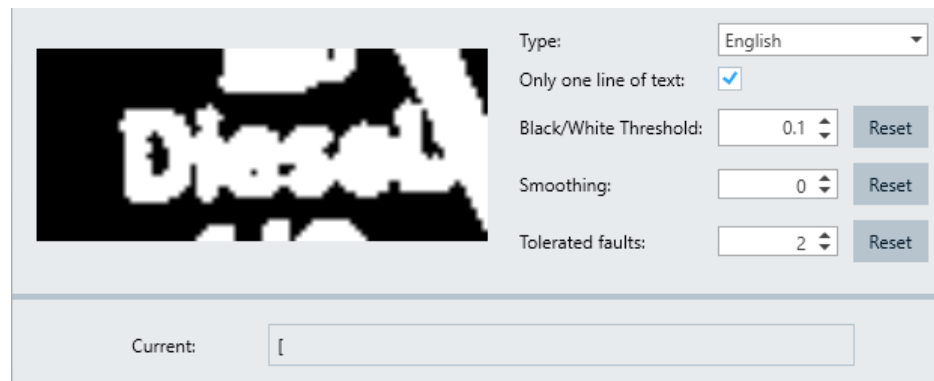

Figure 6-14: Bad text detection due to patterns in the background
- Avoid settings that lead to white text on a black background as in Figure 6-14.